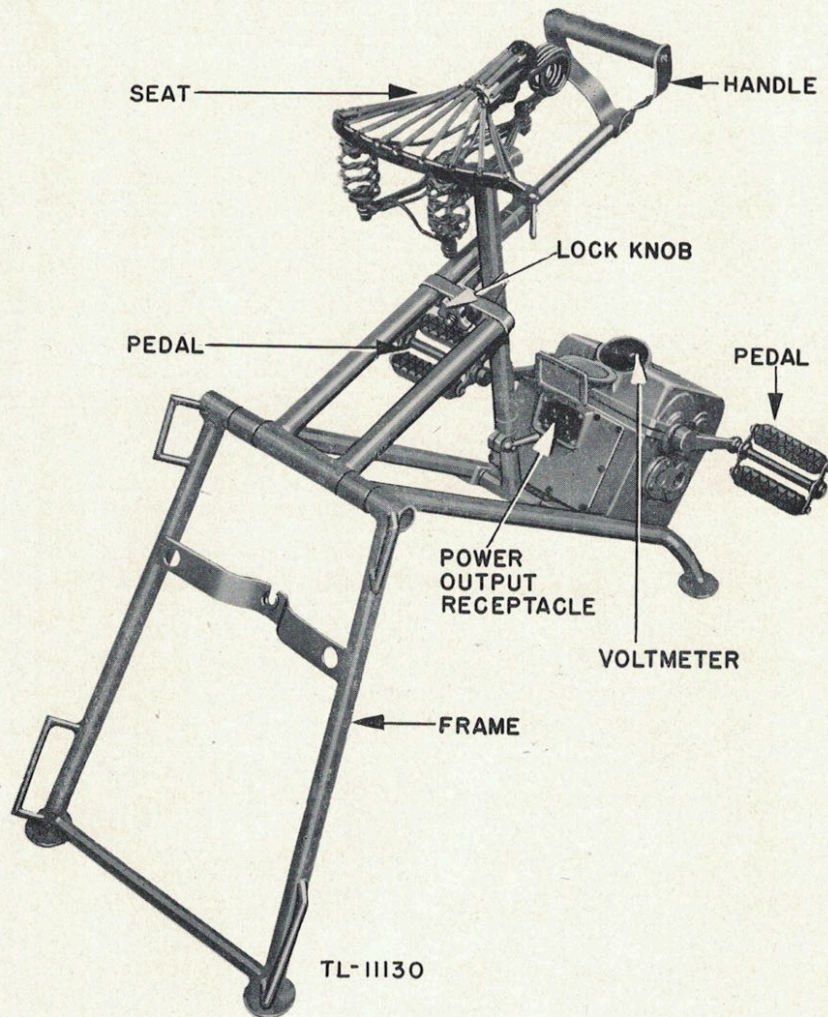
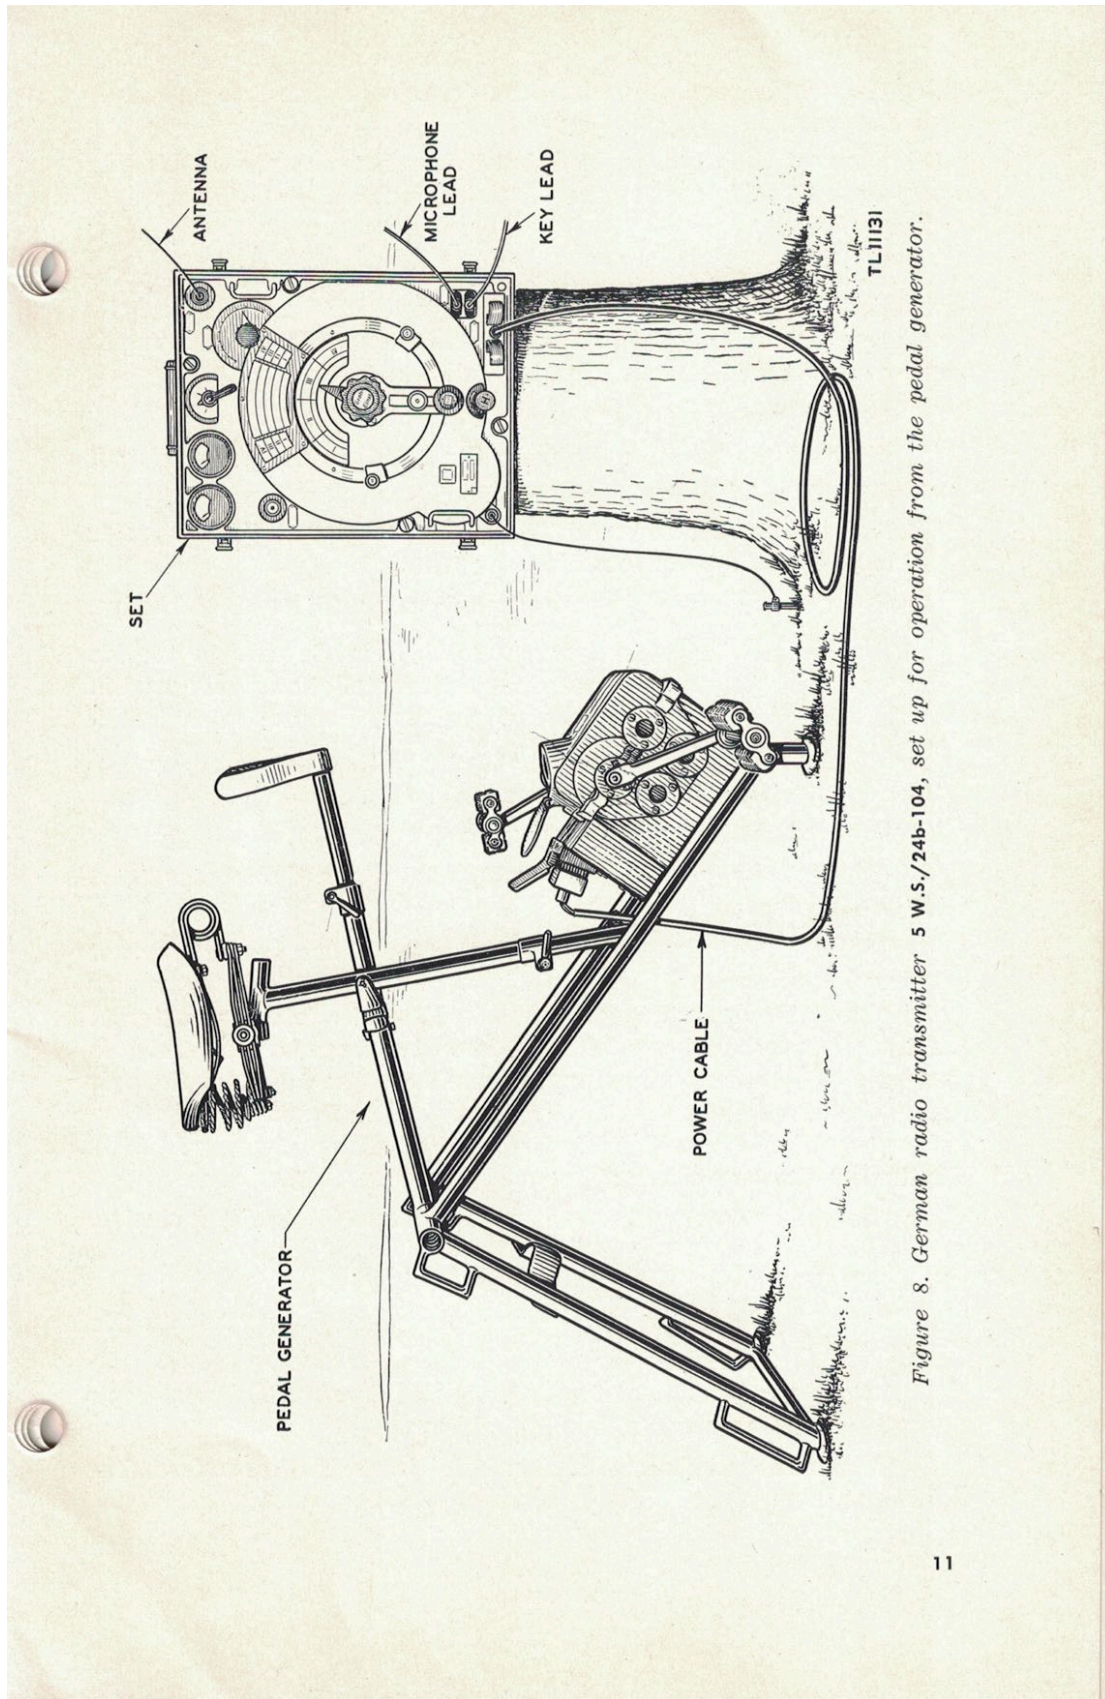

Figure 3. Pedal generator for German radio transmitter 5 W.S./24b-104.
Figure 8. German radio transmitter 5 W.S./24b-104, set up for operation from the pedal generator.
b. Pedal Generator. The pedal generator (fig. 3) is mounted on a frame similar in design to that of a bicycle. The generator has a low-voltage output for transmitter filament supply, and a high-voltage output of 330 volts at 150 milliamperes for plate supply. A voltmeter on the pedal generator enables the operator to know when he has reached the proper pedaling speed. The height of the seat can be adjusted and the handle lengthened to suit the operator. Figure 8 shows the pedal generator connected to the 5 W.S. and ready for operation.
(2) Connect a good ground or counterpoise to the **Erde** (ground) binding post.
(3) Connect the antenna lead from the receiver antenna binding post to the binding post on the **5 W.S.** labeled **Empf.-Ant.** ("to receiver antenna").
c. Pedal Generator. For ground-set operation, power is usually supplied for the **5 W.S.** from a pedal generator (fig. 3). Set up the pedal generator and the set as shown in figure 8. When using it in a ground installation, proceed as follows:
- (1) Set the main switch to the **Aus** (off) position.
- (2) Connect the power cable from the **5 W.S.** to the power output receptacle on the pedal generator.
- (3) Raise the meter cover on the pedal generator so the voltmeter can be observed during operation.
- (4) Proceed as directed in paragraph **5c**, steps (6) to (8) inclusive.